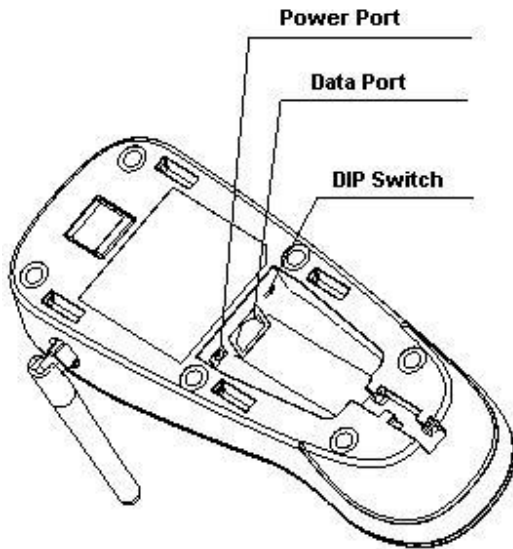

Fig. 1-3
1. Plug the RJ45 connector into the data port (see Fig.1-3) on CD15 cradle.
3. Plug the supplied power adapter into the power port (see Fig.1-3) on CD15 cradle.